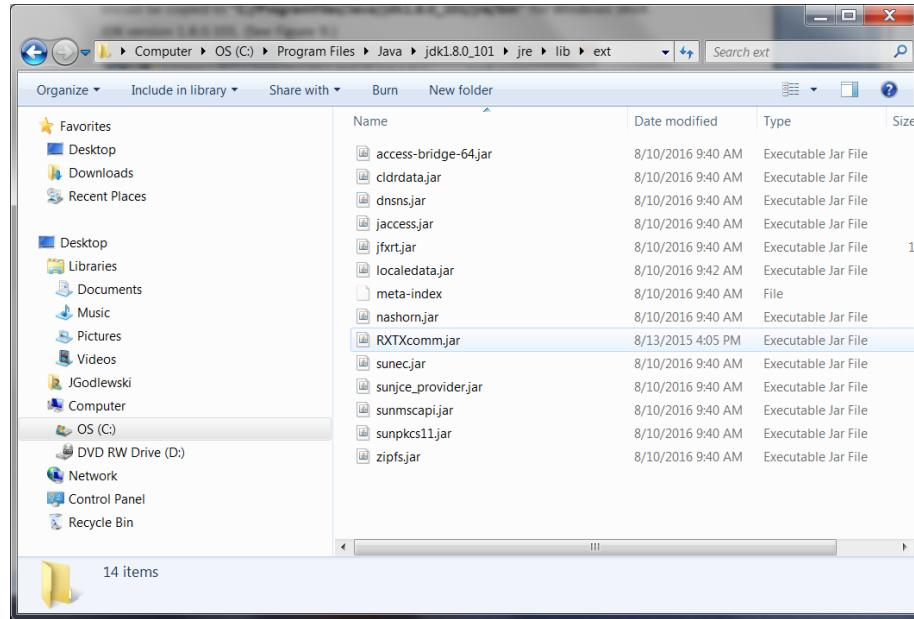

Figure 28: Local JAVA JDK folder for RXTXcomm.jar file.
- 4) Copy the “**RXTXcomm.jar**” file to the “**C:/ProgramFiles/Java/jdk1.8.0_101/jre/lib/ext**” folder. (Figure 28)